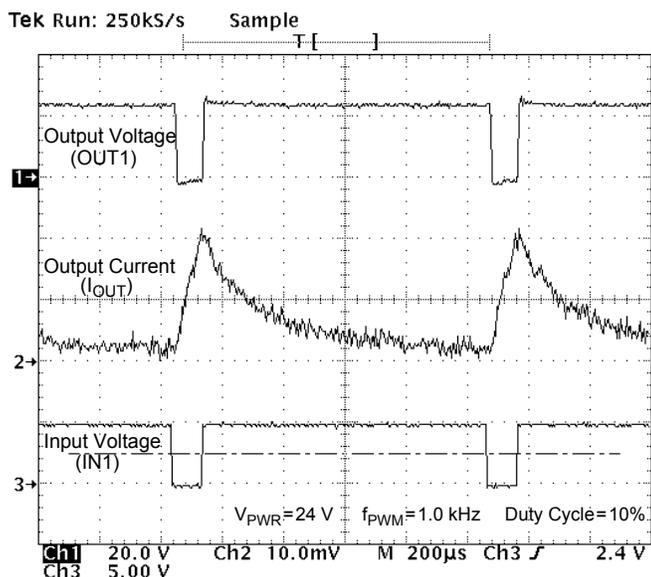

Figure 8. Output Voltage and Output Current vs. Input Voltage at $V_{PWR}=24 \text{ V}$, PMW Frequency of 1.0 kHz, and Duty Cycle of 10%
22. The outputs can be PWM controlled from an external source. This is typically done by holding one input high while applying a PWM pulse train to the other input. The maximum PWM frequency obtainable is a compromise between switching losses and switching frequency. Refer to Typical Switching Waveforms, Figure 8 through Figure 15.